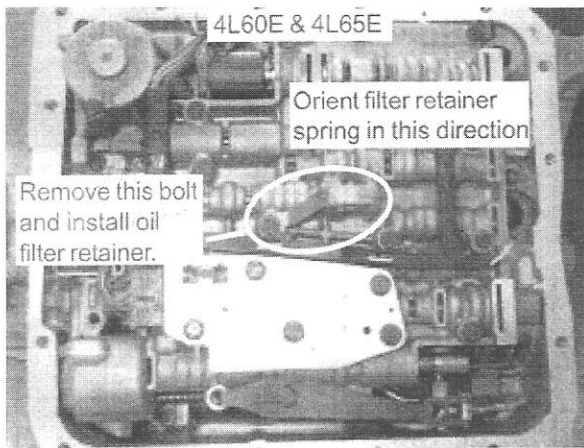

Figure 1
STEP 3. The filter must be held in place with the supplied oil filter retainer. This retainer is held in place by one of the valve body bolts (See Figure 1 and 2). Refer to the transmission you have and remove the bolt shown and install the supplied oil filter retainer (point the oil filter retainer towards the front of the vehicle as shown). Tighten the bolt to 8 lbs-ft-do not over tighten!